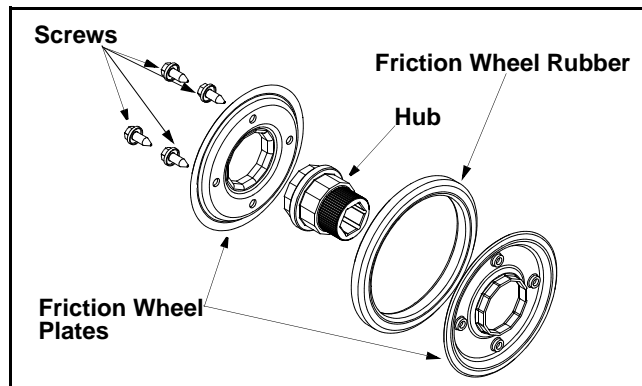

Figure 24
- Remove the four screws from the friction wheel assembly. Remove the friction wheel rubber from between the friction wheel plates. See Figure 24.